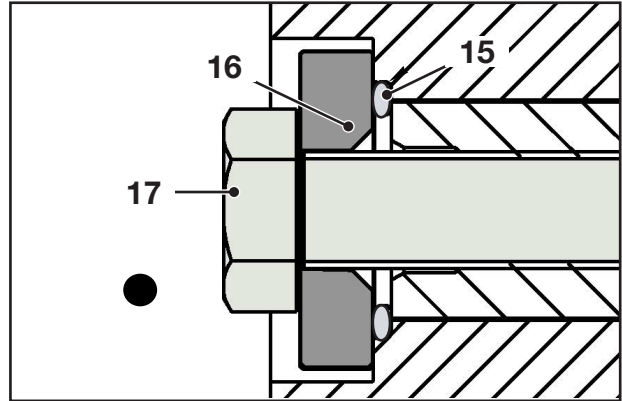

Fig 36.
- 20** Attach the washer **16** to the bolt **17**. Make sure that the bevel on the face of the washer **16** is facing away from the bolt-head. → Fig 36. (□ F-23).